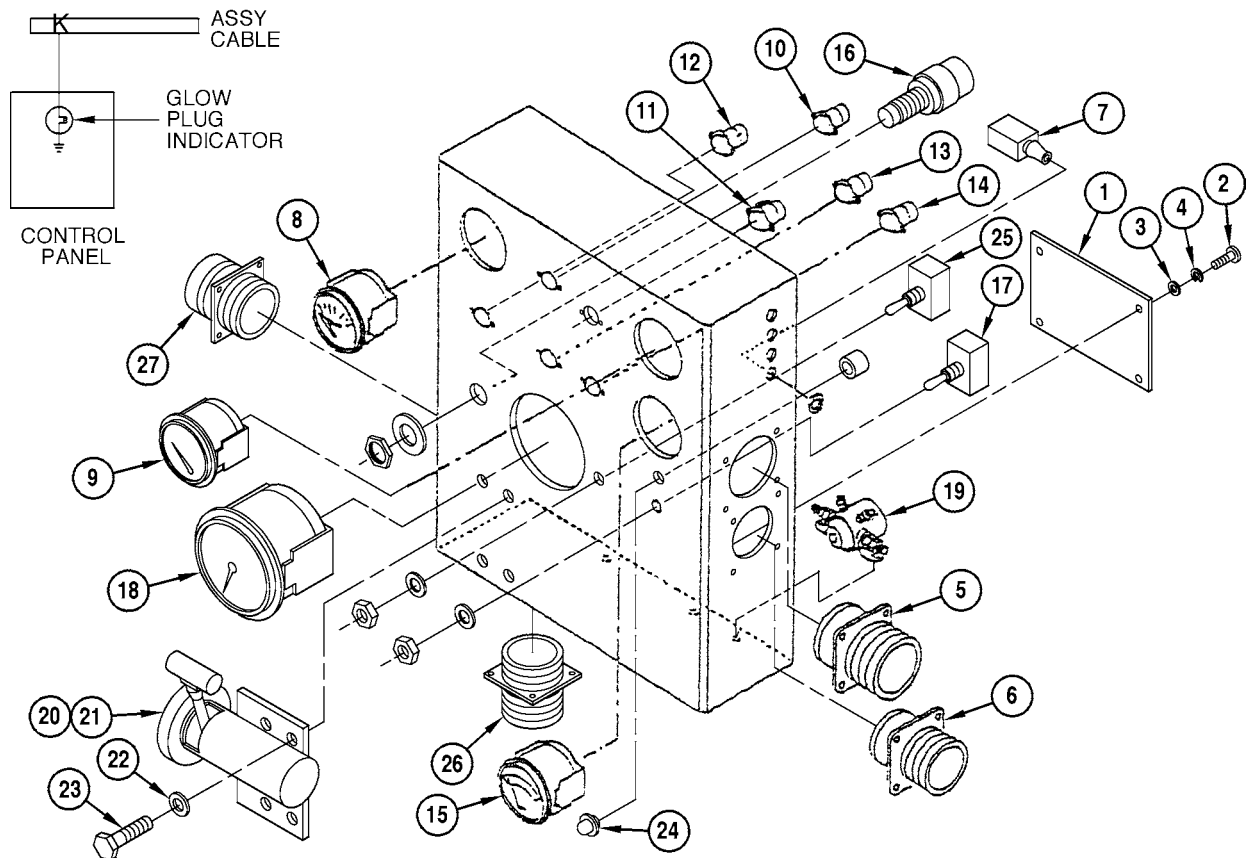

Figure 3-1. Instrument Panel Components
1. Install STE/ICE circuit card assembly (1) on four weldnuts in instrument panel with four screws (2), washers (3), and lockwashers (4) (see Figure 3-1).
2. Connect STE/ICE harness to STE/ICE circuit card assembly (1) in instrument panel.